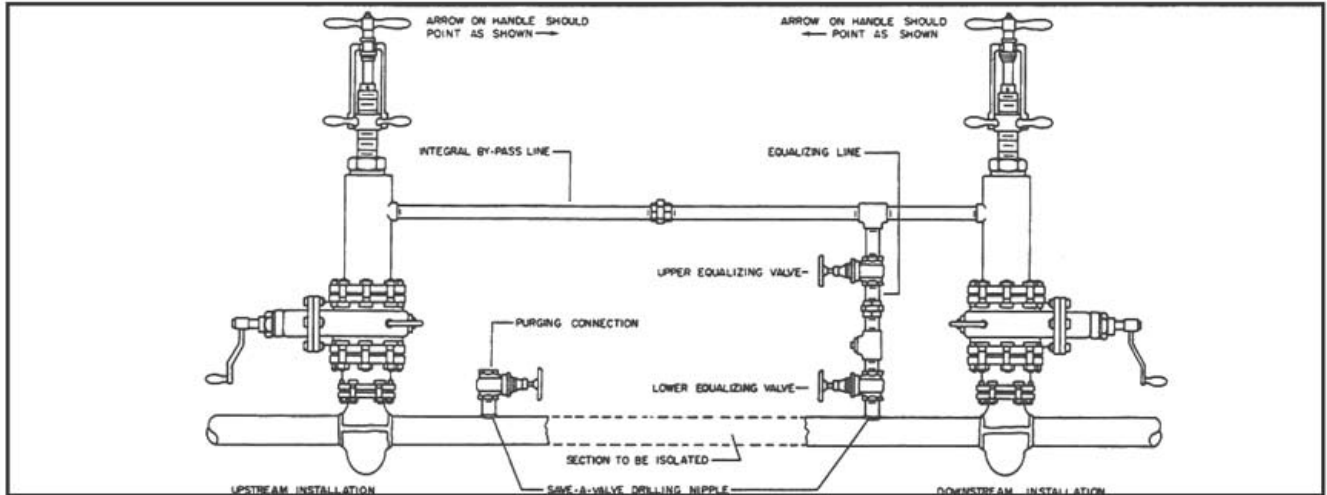

FIGURE 17
2. See **Figure 17** when using two stopping machines to isolate a section of pipe and using an integral by-pass line to maintain service. Also, see chart on page 48 for flow data through this type of by-pass. Use a separate by-pass of adequate size if there is any doubt as to whether or not an integral by-pass will provide sufficient and consistent flow and pressure for downstream requirements.
1. If integral by-pass line is being used between two stopping machines (**Figure 17**), the air is purged from the by-pass line by: